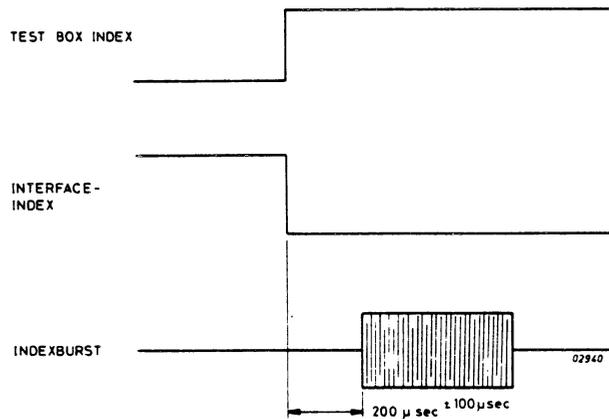

Figure 7.5 INDEX TO BURST CHECK
- d) Check distance between start of trace and start of burst is  $200 \mu\text{secs} \pm 100 \mu\text{secs}$  (figure 7.5).